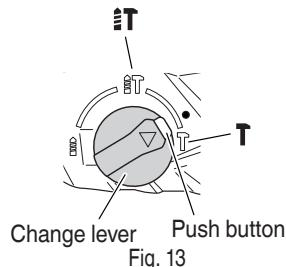

Fig. 13
- (1) Mount the bull point, cold chisel, or other tool bit.
- (2) Press the push button and set the change lever to middle of **IT** mark and **T** mark. (Fig. 13)